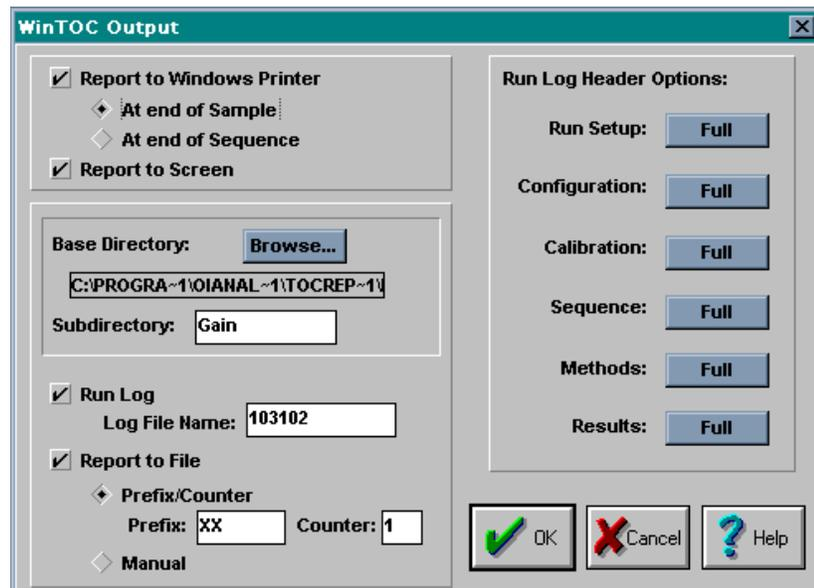

Figure 4.2. WinTOC Output screen
1. From the Status screen, go to the **Setup** menu and select **WinTOC Output**. This will access the WinTOC Output screen (Figure 4.2.).